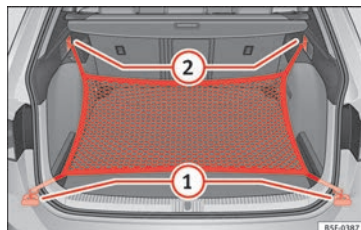

Fig. 135 In the luggage compartment: rings ① and hooks ② for securing the net bag (LEON ST model).
- Secure the short net hooks to the fastening rings » Fig. 135 ① » ⚠. The bag zip should be facing upwards.
- Secure the straps in the bag hooks ②.